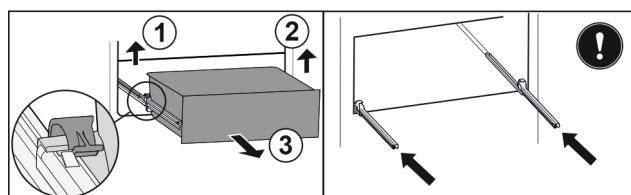

Fig. 116
- Lift left clamp and simultaneously pull drawer forwards on the left. Fig. 116 (1)
- Lift right clamp and simultaneously pull drawer forwards on the right. Fig. 116 (2)
- Remove drawer to the front. Fig. 116 (3)